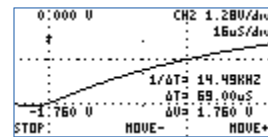

Figure 64: Half-life measurement
- 12) The display should look like figure 64. The measured time $T_{1/2} = 69\mu$ s, is the "half-life" time, so $RC = 99.95\mu$ s